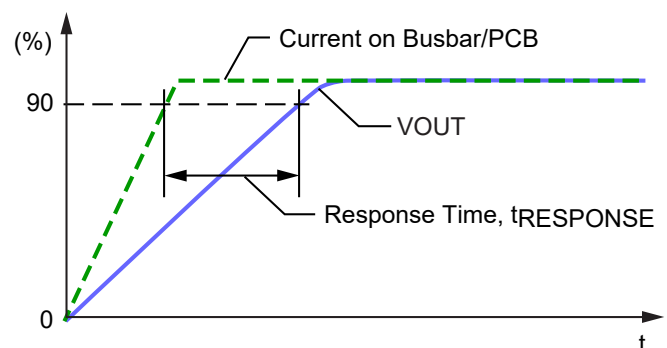

Figure 41: Response Time ( $t_{\text{RESPONSE}}$ )
**Response Time ( $t_{\text{RESPONSE}}$ ).** The time interval between a) when the sensed current reaches 90% of its final value, and b) when the sensor output reaches 90% of its full-scale value, as shown in Figure 41.